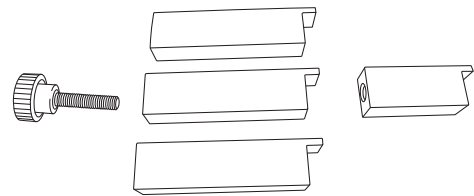

Figure 2B
2. Replace the feet on the fixture with the longer feet provided in the kit. (Figure 2B)